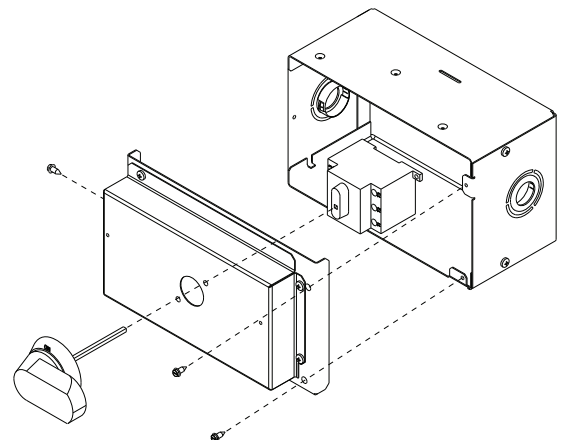

Fig. 25 — Handle and Shaft Assembly for NFD
2. Remove (3) hex screws on the NFD enclosure - (2) on the face of the cover and (1) on the left side cover (see Fig. 25).
10. Secure the handle to the painted cover with (2) screws and lock washers supplied.
11. Engaging the shaft into the handle socket, re-install (3) hex screws on the NFD enclosure.